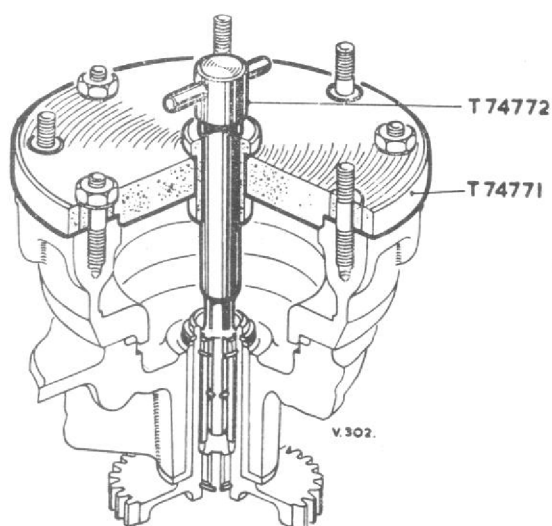

Fig. 9. Checking the alignment of the fuel pump drives
- (1) Position adapter gauge T74771 on one of the fuel pump spigots and secure with three equally spaced slave washers and nuts.
- (2) Check the alignment by passing the spline gauge T74772 through the bore of the adapter gauge (fig. 9).